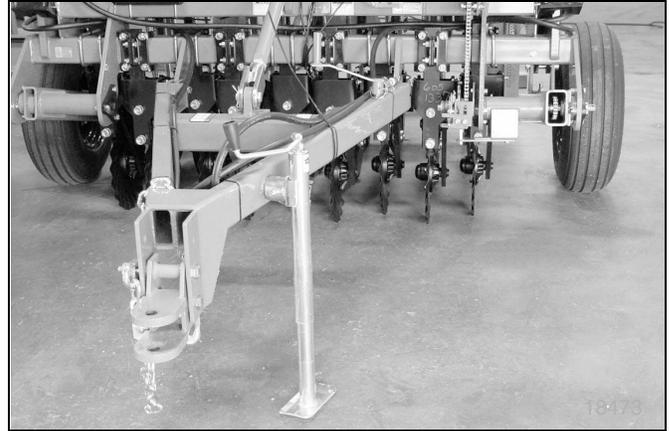

Figure 6
1. With drill lowered in field position and tongue jack mounted as shown in Figure 6, raise or lower tongue jack to level drill tongue.